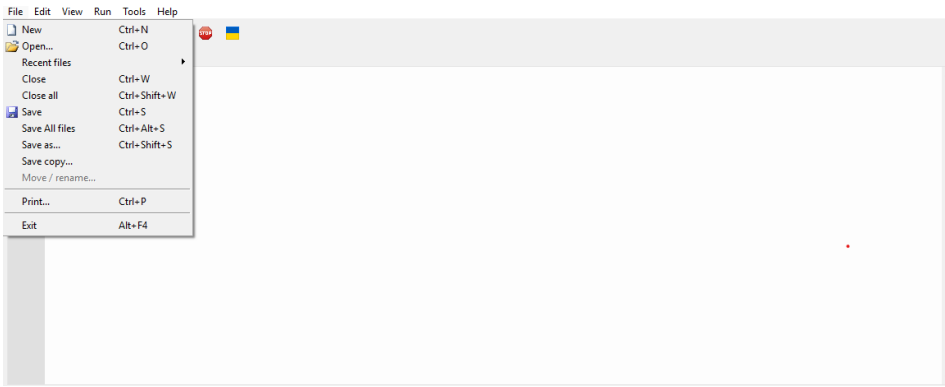

Figure 8: Clicking File.
- Click **File**, then **Open**. (Figure 8)